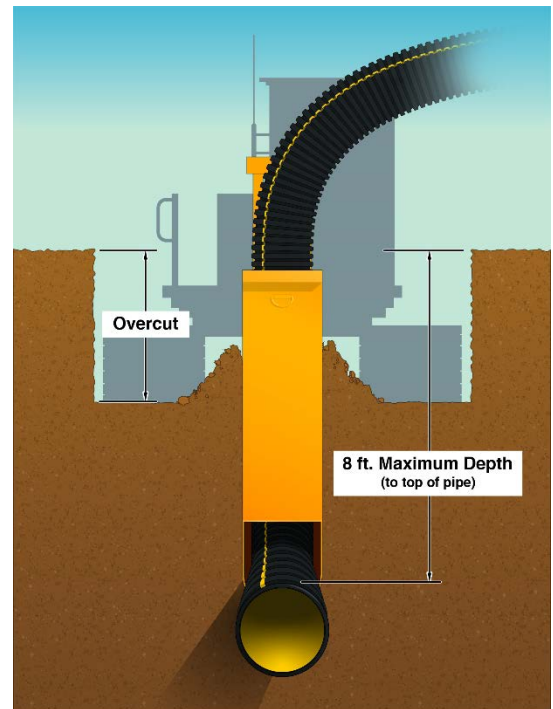

Figure 4: Goldflex Burial Depth and Overcut
- An overcut, or sub-cut, may be required for deeper burial depths (Figure 4). The depth and use of an overcut will vary based on pipe diameter, soil type, moisture content, ground temperature, etc.